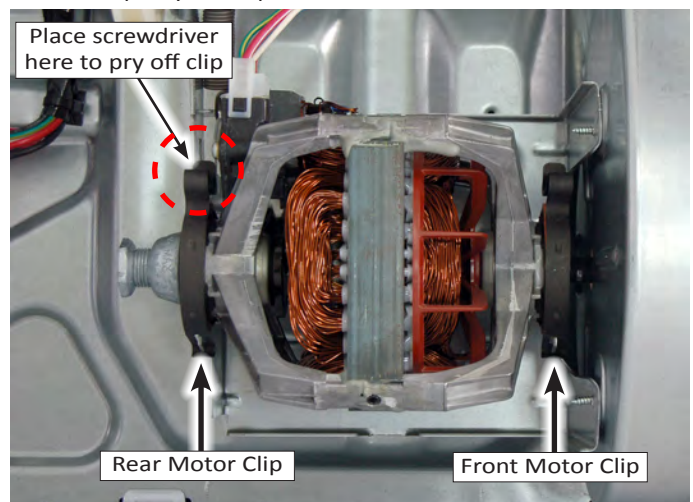

Figure 4 - Drive motor retaining clips.
9. Locate the front and rear motor clips as illustrated in Figure 4 below. Using a small flat blade screwdriver, insert the blade of the screwdriver into the pocket at the tip of the clip. Pry the clip off the tab and remove.